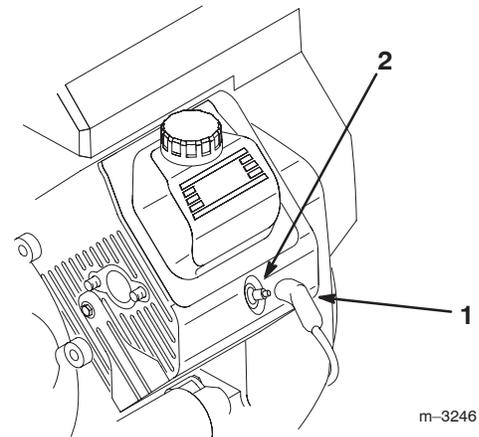

Figure 57
- Pull the wires off the spark plugs (Fig. 57).
3. Push the wires onto the spark plugs (Fig. 57).